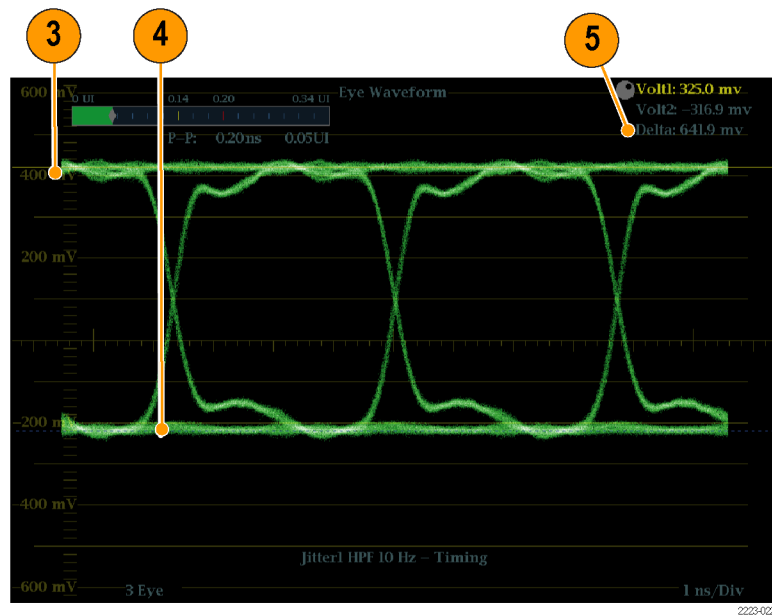

Figure 52: Eye measurement cursor placement
3. Position one voltage cursor at the top part of the waveform, ignoring any overshoot or undershoot on the rising or falling edges. (See Figure 52.)
4. Position one voltage cursor at the top part of the waveform, ignoring any overshoot or undershoot on the rising or falling edges. (See Figure 52.)
5. Note the amplitude of the eye waveform that is displayed in the Voltage Cursor readout. (See Figure 52.)